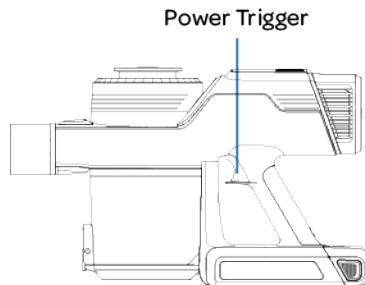

Figure 1
1. Squeeze and release the blue Power Trigger on the handle to turn on the Veridian Endeavor Plus vacuum (Figure 1). The vacuum continues to run once the Power Trigger has been released.